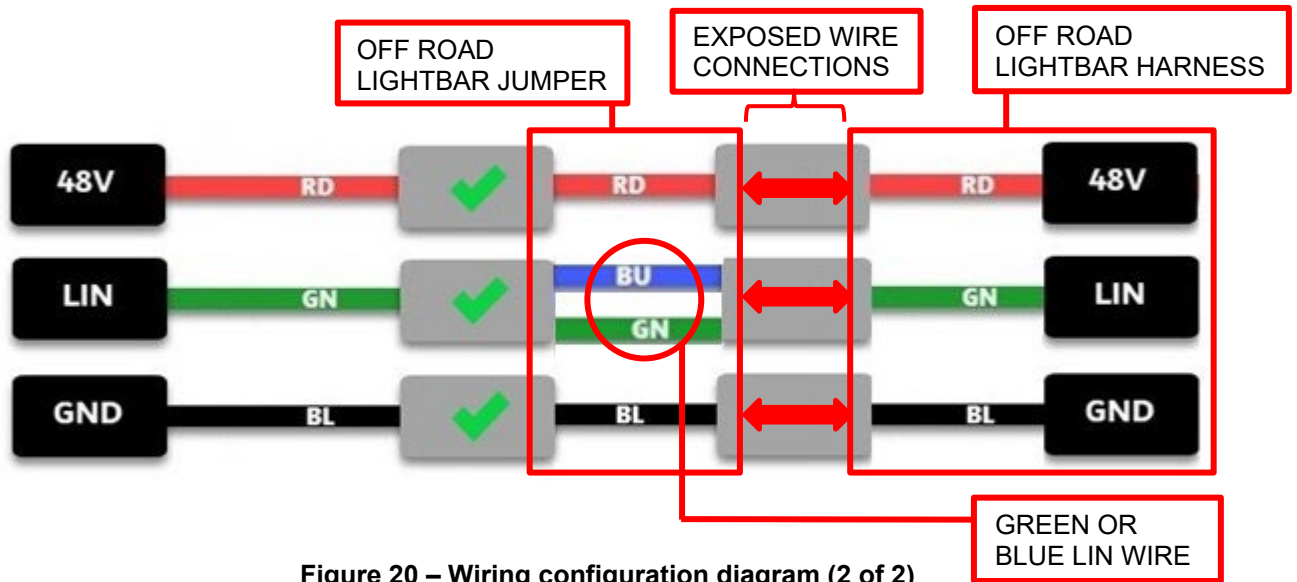

Figure 20 – Wiring configuration diagram (2 of 2)
25. Prepare to install the off road lightbar jumper wires (x3) to the off road lightbar harness according to the wiring configuration diagram (Figure 20).